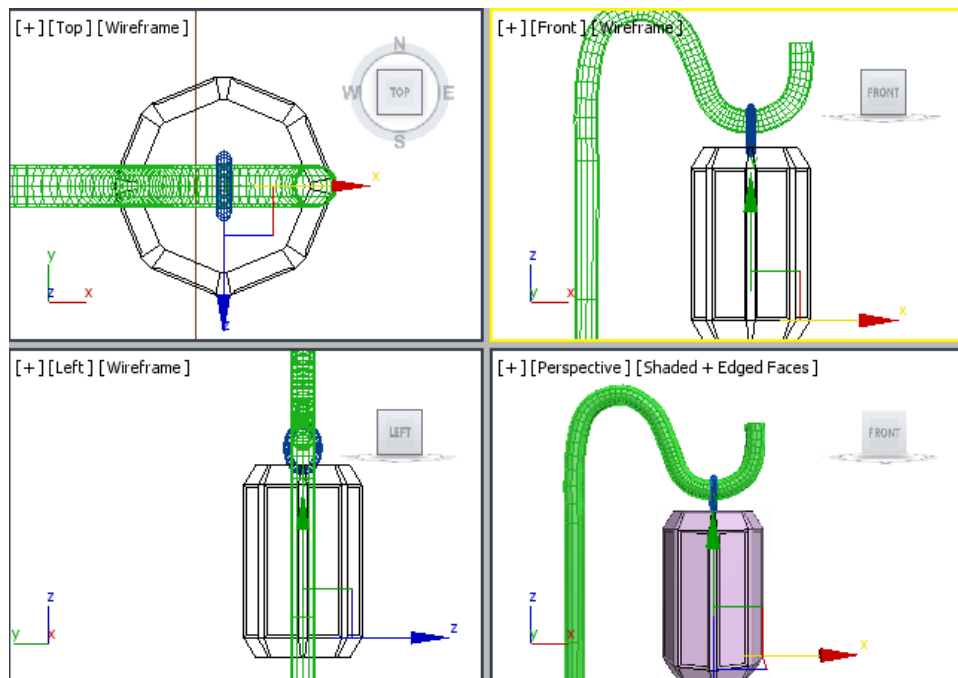

Figure 5-36 The selected polygons beveled
11. In the **Edit Polygons** rollout, choose the **Settings** button on the right of the **Bevel** button; the **Bevel** caddy control is displayed in the viewport. Set the value **0.13** in the **Bevel-Height** spinner and **-0.08** in the **Bevel-Outline** spinner and then choose the **OK** button to close the caddy control; the selected polygons are beveled, as shown in Figure 5-36.
13. Invoke the **Select and Move** tool from the **Main Toolbar** and align *lamp holder*, refer to Figure 5-36.